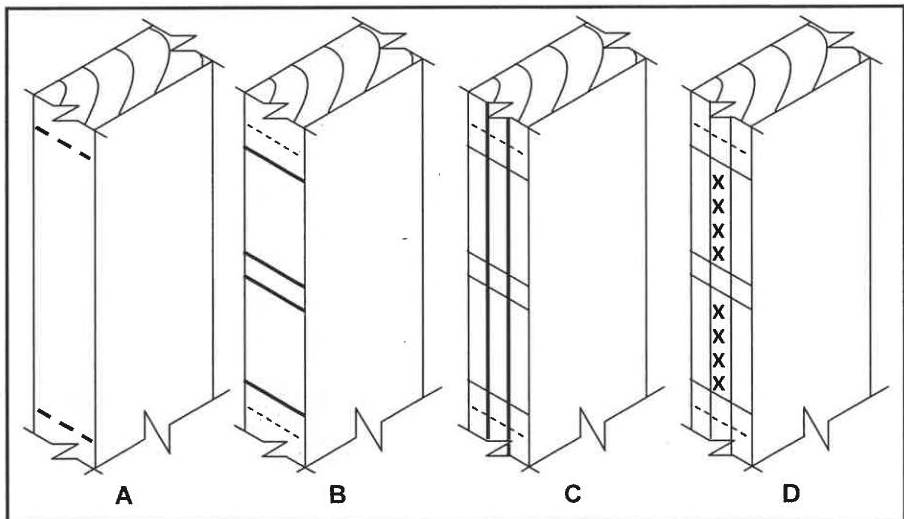

FIGURE 6.3
- 6.3 FIGURE 6.3 shows the steps of marking out of the mortises of a double stub mortise and tenon joint for the lock rail of a three-panel door. (4)